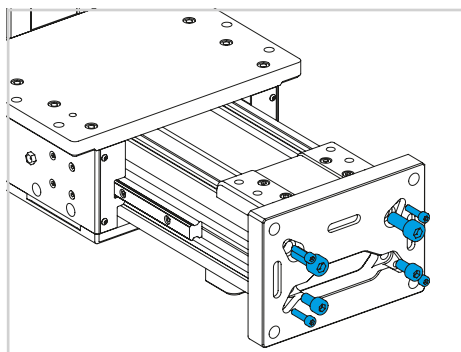
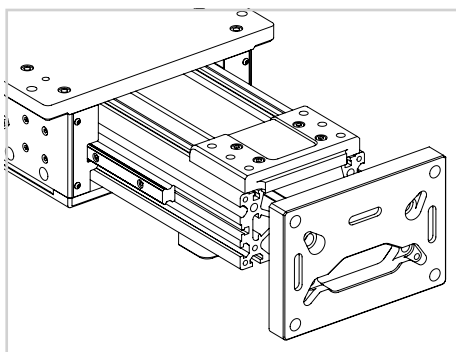

Fig. 8
Fig. 9
- 5) Remove the screws of the lower end plate and separate the plate from the actuator (see Fig. 8 and Fig. 9).